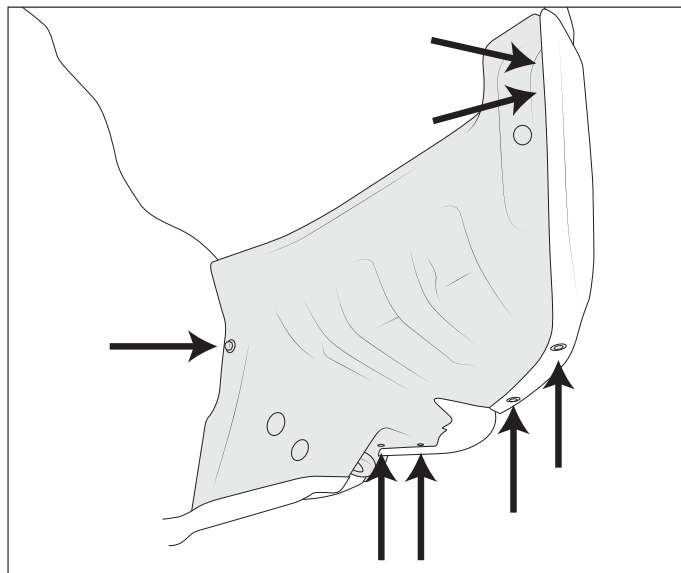

Figure 6
6. Remove LH and RH wheel liner closeouts (fig. 6).